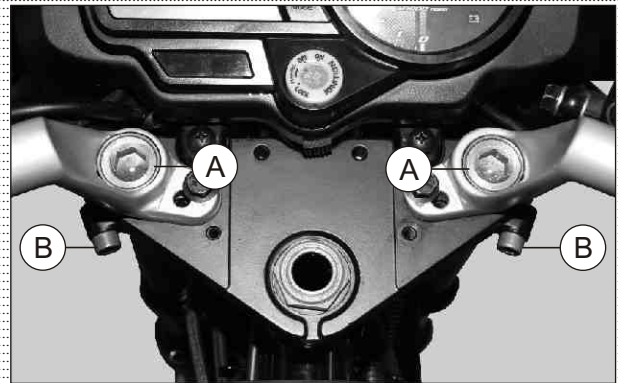

Fig. 6.40
- Loosen nut front fork (A) by 2-3 threads before removal of leg assembly L & R. (Fig. 6.40)
- Loosen hexagonal socket head screws (B) (M8x40 - 2 nos) from the lower bracket complete (fork upper mounting). (Fig. 6.40)